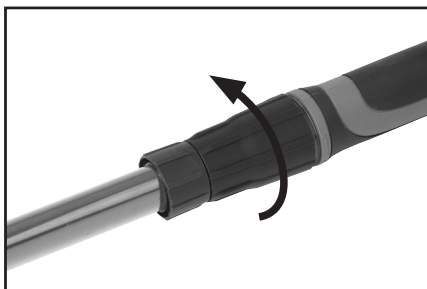

Fig. 5
- Tighten the sleeve nut to secure the Extension Tube and ferrule into their service positions. **(Fig. 5)**